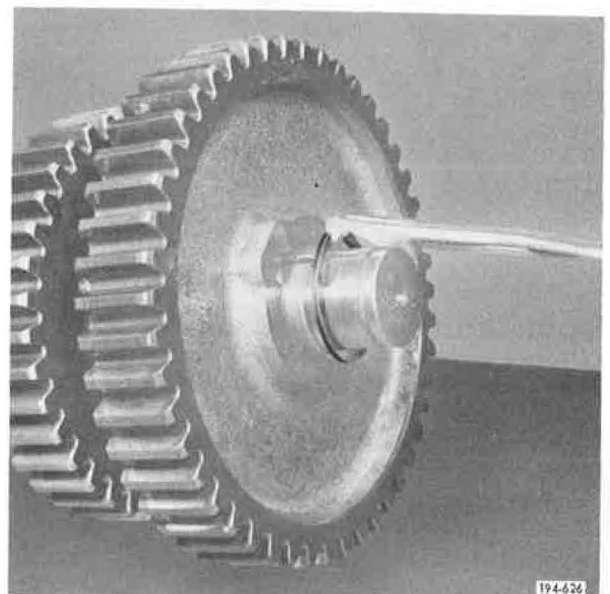

Figure 5-900. Installing Snap Ring
5. Install gear retaining snap ring, using snap ring pliers J-25445 or equivalent. See Figure 5-900.